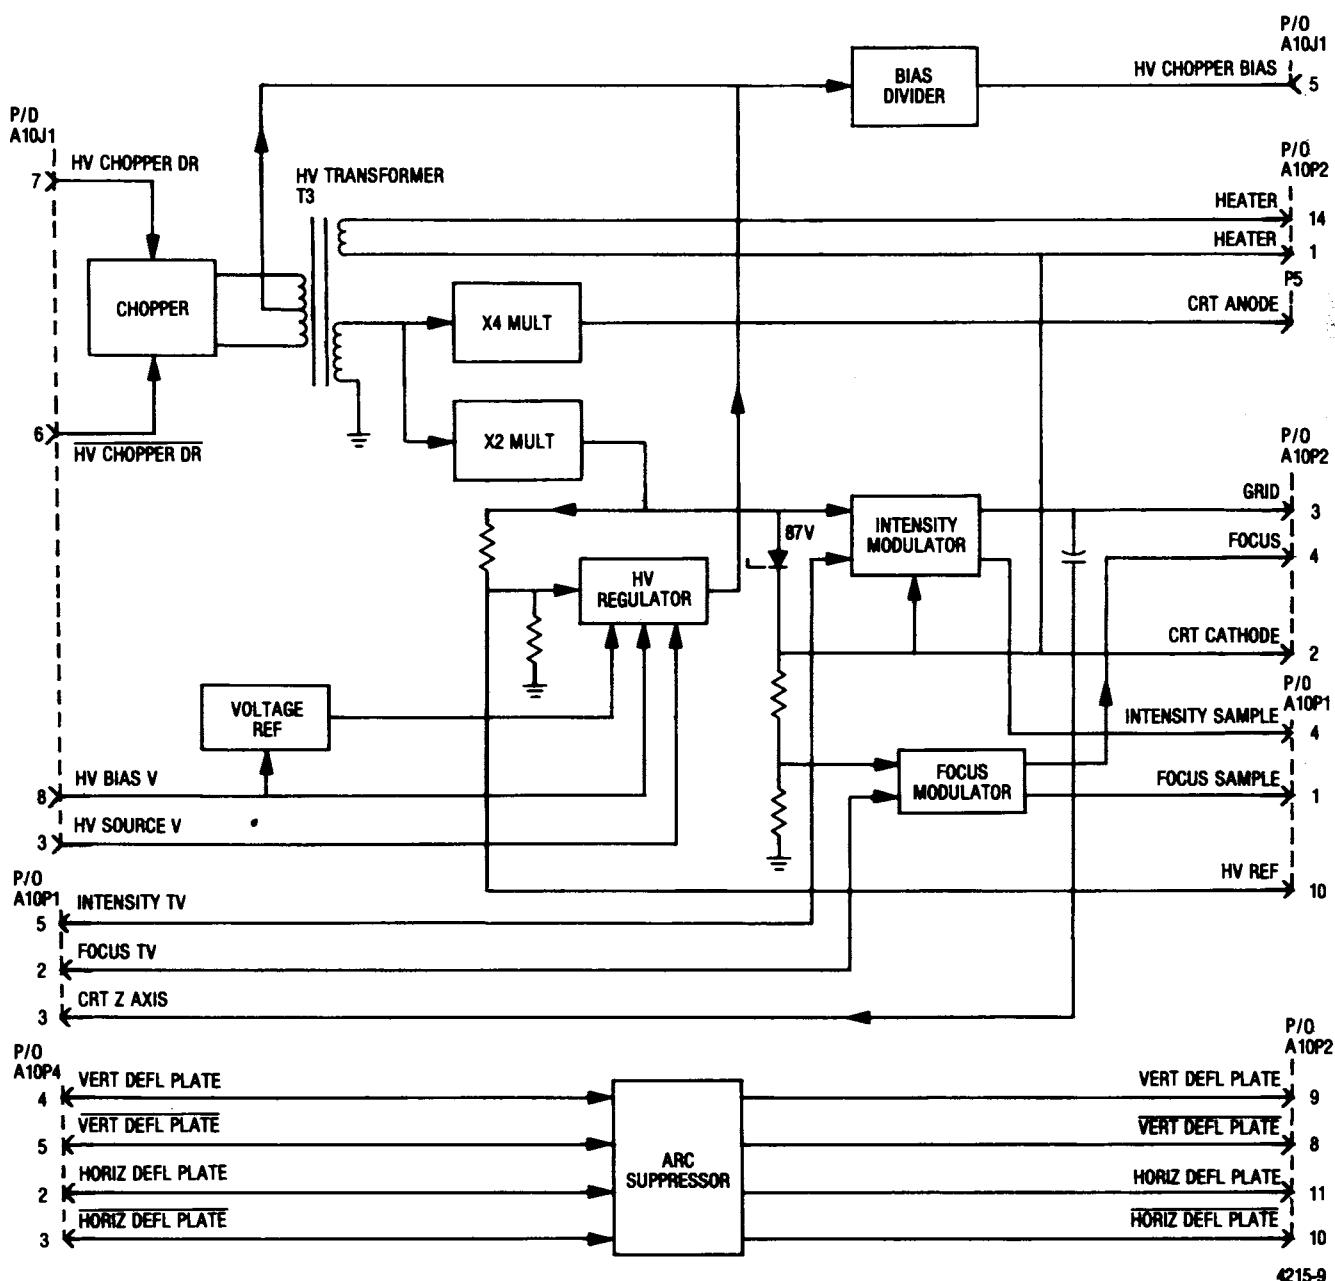

Figure 16-1. High Voltage Power Supply A10 Block Diagram
**16-1. GENERAL.** CRT bias and drive voltages are provided by the high voltage power supply. The power supply converts a nominal 15 VDC input to output voltages of +4kV and a -2kV. In addition, control circuits for the CRT focus and intensity grids are contained in this power supply. The high voltage power supply block and schematic diagrams are shown in figures 16-1 and 16-2, respectively.